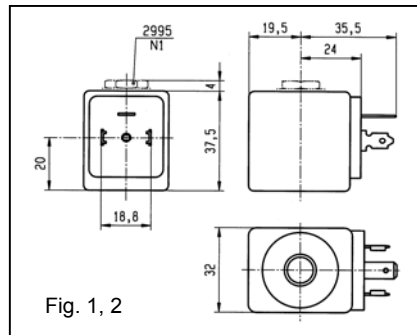

Fig. 1, 2
**Closed:** The letter "C" is in the upper position of the screw head (fig.1,2)
**Open:** The letter "A" is in the upper position of the screw head (fig.1,2)